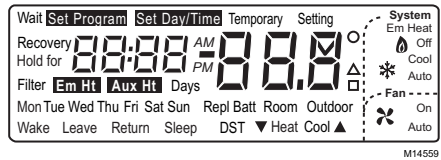

Fig. 10. Display of LCD segments.
- To enter the installer setup, press and hold the information **i** key with the increase **s** and decrease **t** keys until the first number is displayed. All display segments appear for approximately three seconds before the number is displayed. See Fig. 10 and 11.